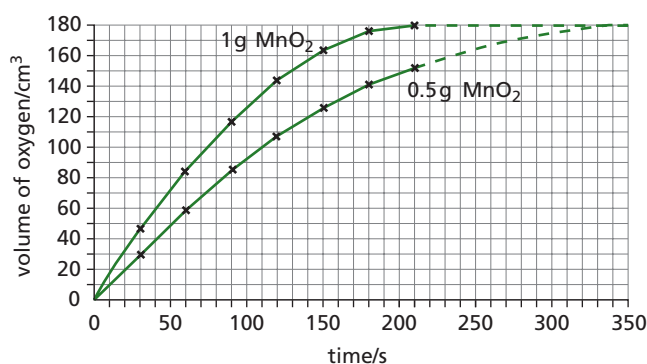

Figure 7.13 Sample data for differing amounts of MnO₂ catalyst.
Some sample results from experiments of this type have been plotted in Figure 7.13. At the end of the reaction, the manganese(IV) oxide can be filtered off and used again. The reaction can proceed even faster by increasing the amount and surface area of the catalyst. This is because the activity of a catalyst involves its surface. Note that, in gaseous reactions, if dirt or impurities are present on the surface of the catalyst, it will not act as efficiently; it is said to have been ‘poisoned’. Therefore, the gaseous reactants must be pure.